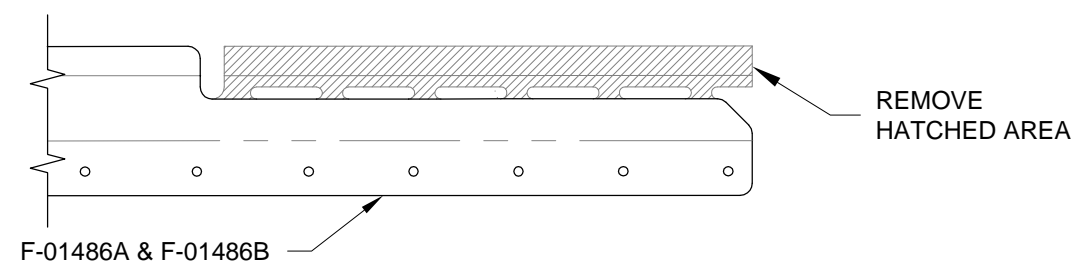

FIGURE 1: MODIFY J-STIFFENERS
Step 1: Remove the hatched areas from the F-01486A-L & -R and F-01486B-L & -R J-Stiffeners as shown in Figure 1.